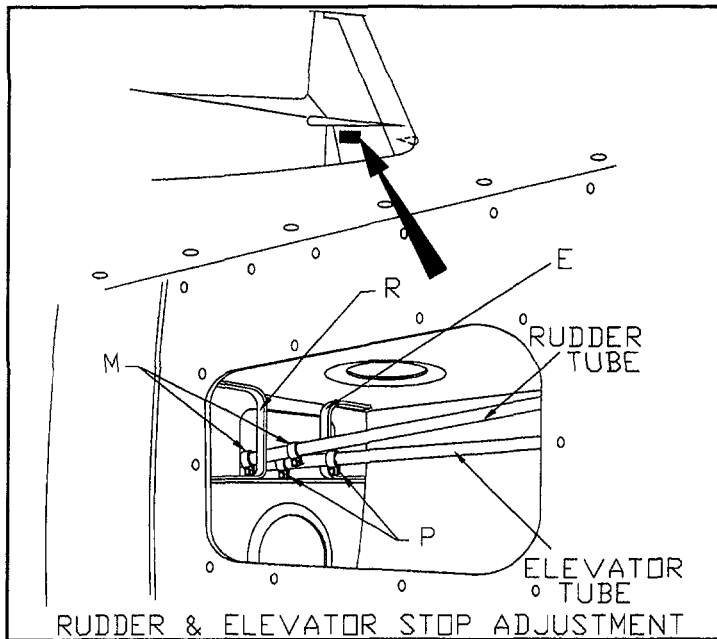

FIGURE 27-9
F. Set stops (P), (Figure 27-9), in empennage stinger for elevator uptravel of 22°(+0/-2) and down travel of 22°(+0/-2).
Elevator Stop limiter (E) may be bent to obtain clearances and positive contact with (P), (Figure 27-9).